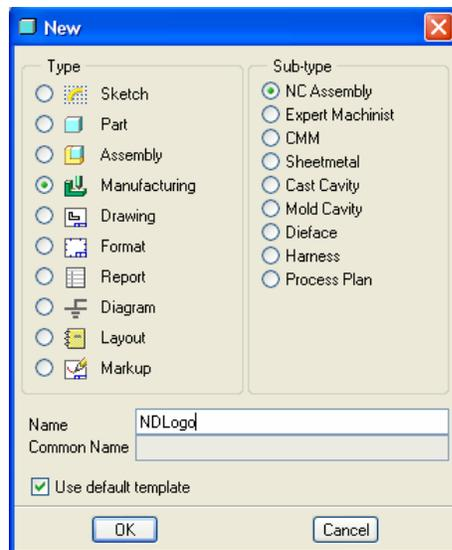

Figure 2a: New File Dialog Box
Step 2: Select Manufacturing Type on the New dialog box, then select **NC ASSEMBLY** as the Sub-type, **Name >> ndlogo** (Figure 2a)